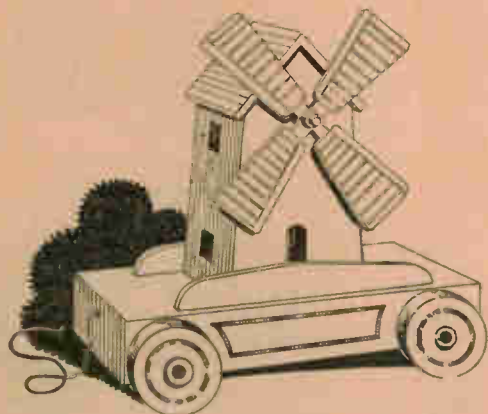
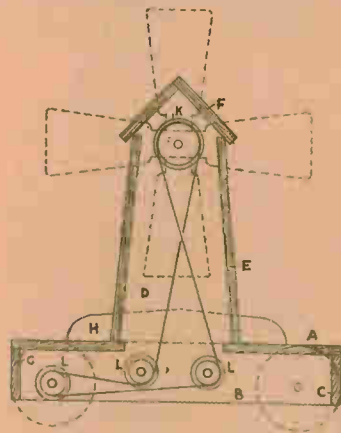

Fig. 1—The finished toy
Fig. 2 Sectional view, showing how the toy works
Such a toy windmill is described here and full-size diagrams are also given. A general idea of the toy can be gathered from the sketch Fig. 1, and in the diagrams Figs. 2 and 3 we see the mechanism by means of an inside view of the body of the mill.
two more cross axles each bearing similar pulley wheels which revolve loosely about their axles. These are shown as (L) in Fig. 2.
It only remains now to put the finishing touches to the paint work and add a coat of varnish if the paint needs it. Now remove the roof section of the mill, which as mentioned, is fitted, and slides between the front and back. A piece of fine cord is next required and is passed round all four pulleys just as seen in Fig. 2. The cord should be of sufficient tension to grip the grooves of the pulleys, and must in no case be strained to distort the axles or the spindle. A stout cord should be attached to the base of the toy for pulling it along. (393)